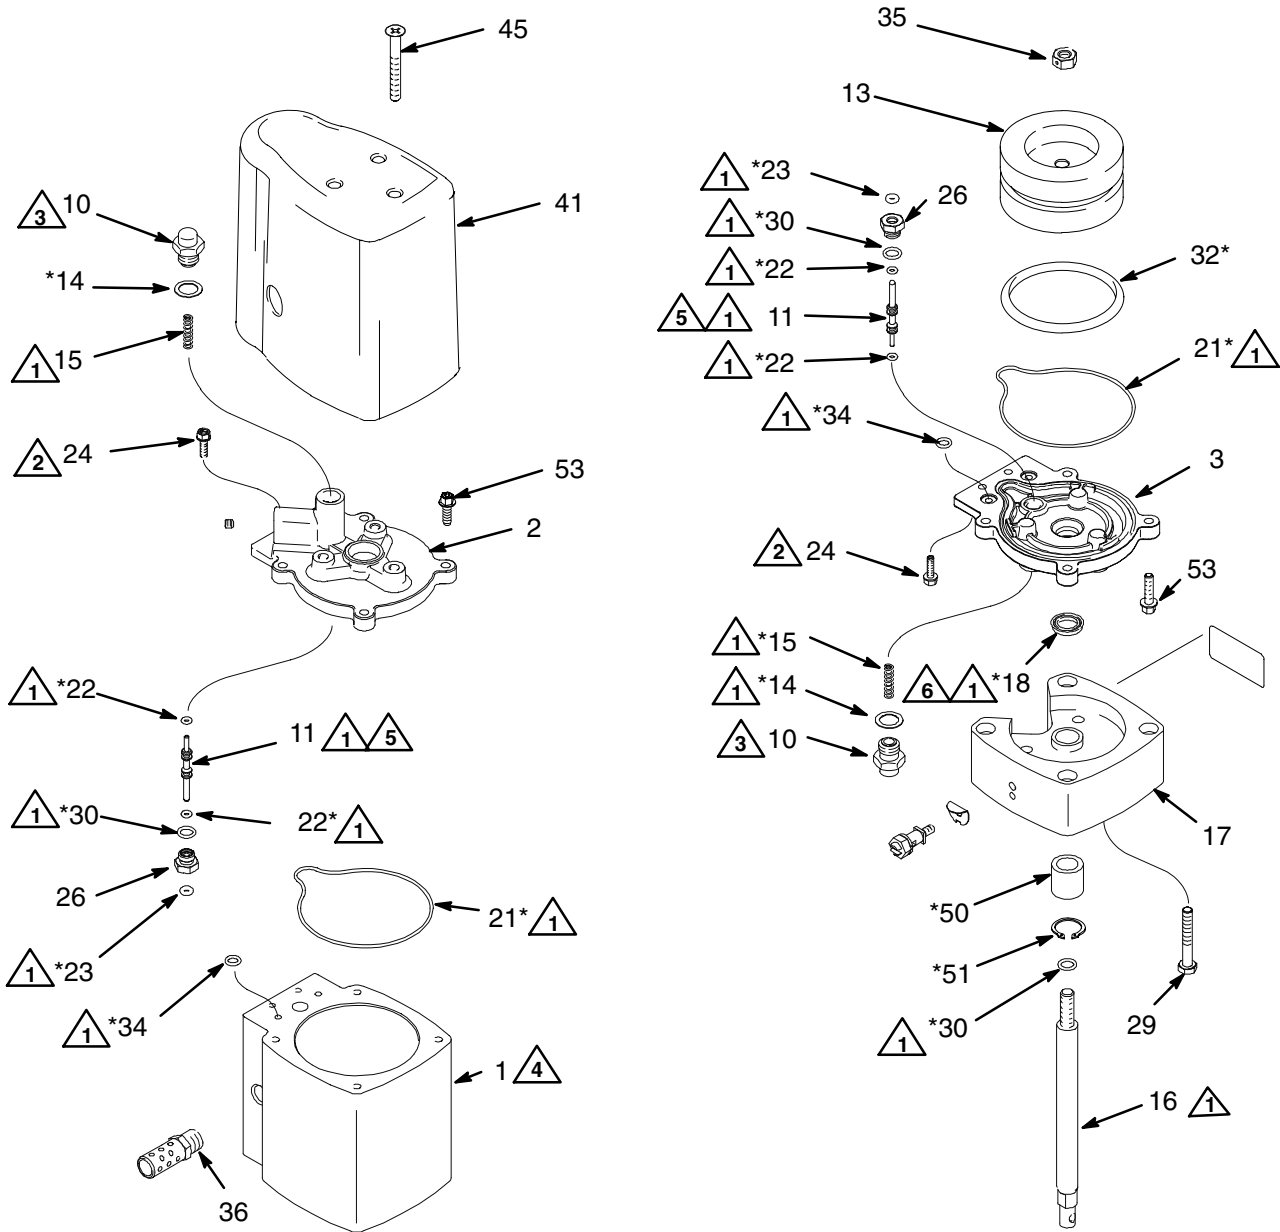

Fig. 4
1. Fig. 4. Remove three screws (29) holding motor base (17) to bottom cylinder cap (3). Pull base off cap.
2. Remove u-cup packing (18) from bottom cylinder cap.
3. Remove retaining ring (51) and bearing (50) from motor base. Inspect. Replace if worn or damaged.
4. Remove six screws (24 and 53) holding bottom cylinder cap to motor cylinder (1). Lift motor cylinder off bottom cap to expose piston (13).
5. Pull piston and piston rod (16) out of motor cylinder.
6. Remove piston o-ring (32). Use wrench on flats at end of piston rod to hold it steady, and unscrew nut (35) from rod. Remove piston and o-ring (30) from rod.
7. Remove two screws (45) and motor cover (41) from top cylinder cap (2).
10. Remove large o-ring (21) and two small o-rings (34) from inside of top cylinder cap. Repeat for bottom cylinder cap.
1. Fig. 4. Grease large o-ring (21) and two small o-rings (34) and install on top cylinder cap (2). Repeat for bottom cylinder cap (3).
2. Install bottom cylinder cap on cylinder. Be sure that large o-ring (21) does not roll out of groove. Install two M4 screws (24) in square section of bottom cylinder cap. Install four M5 screws (53) in tabs. Torque two M4 screws in square section from 14 to 17 in-lb (1.6 to 1.9 N•m) and four M5 screws in tabs from 35 to 45 in-lb (4.0 to 5.1 N•m).
3. Lubricate u-cup packing (18). Install it in bottom cylinder cap with lips facing up toward cylinder.
4. Install bearing (50) and retaining ring (51) into motor base (17).
6. Install o-ring (30) and piston (13, *with chamfer facing down toward o-ring*) on piston rod (16). Screw self-locking nut (35) onto piston rod. Install o-ring (32) on piston, and lubricate o-ring.
9. Install top cylinder cap on cylinder. Be sure that large o-ring does not roll out of groove. Install two M4 screws (24) in square section of top cylinder cap. Install four M5 screws (53) in tabs. Torque two M4 screws in square section from 14 to 17 in-lb (1.6 to 1.9 N•m) and four M5 screws in tabs from 35 to 45 in-lb (4.0 to 5.1 N•m).
10. Install cover (41) using screws (45).